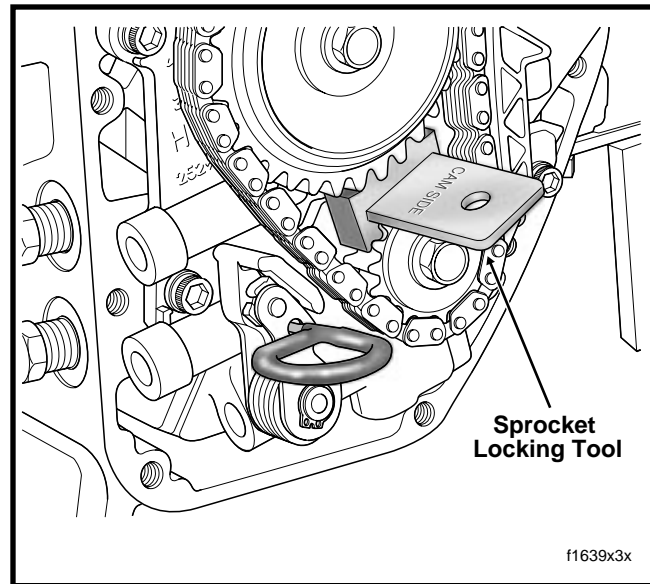

Figure 1. Lock Crank and Primary Cam Sprockets
1. Position the CRANKSHAFT/CAMSHAFT SPROCKET LOCKING TOOL (HD-42314) between the crank and primary cam sprockets to prevent rotation. The handle of the tool is stamped "Crank" and "Cam" to ensure proper orientation. See Figure 1.